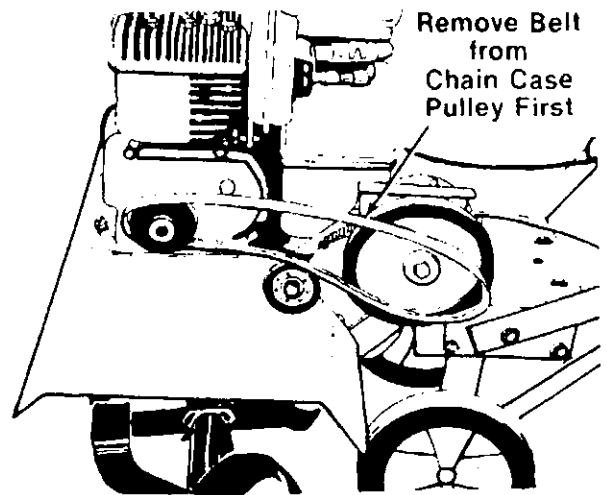

FIGURE 28.
3. Slip the belt off the chain case pulley first, then off idler pulley. Remove belt from engine pulley. See figure 28.